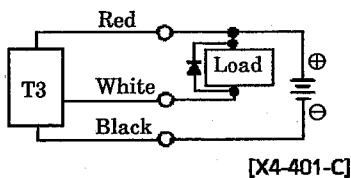

Fig. 3 An example of using inducing load together with surge absorptive element (diode). (Hitachi Mfg. made diode V06C or equivalent is recommended.)
(2) Protection of output circuit
- Install some protective circuit as per illustrated in Fig. 3 when inducing type load (Relay or solenoid valve) are to be used because those types are apt to generate surge current at turning switch off.